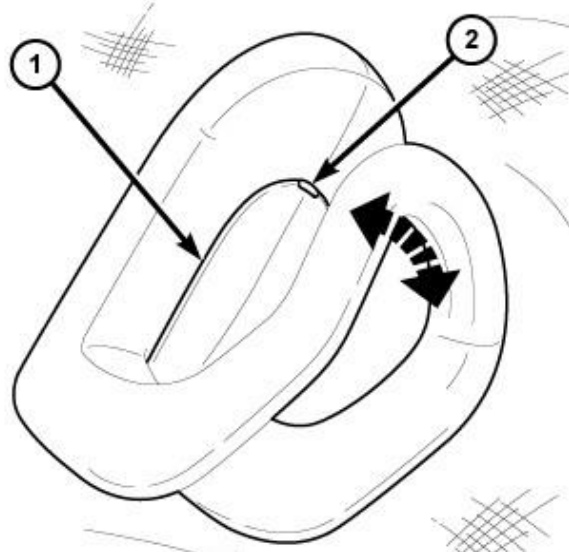

Figure 81 – Coat Hook
23. Using a small flat bladed tool, open the coat hook screw cover (2) then remove the screw and coat hook (Figure 81).
44. Position the coat hooks (5) onto the headliner and install the screws tightening securely into the mounting clips then close the screw cap fully (Figure 81).